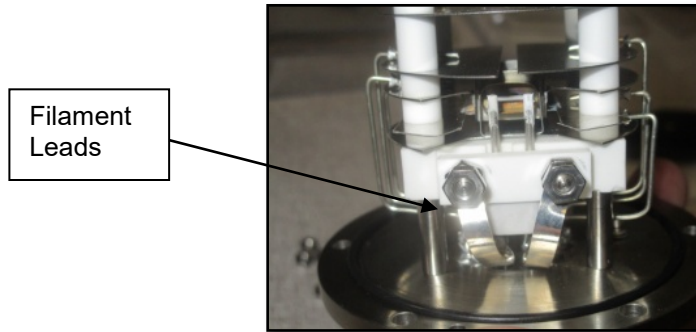

Fig 3.1
2. Once the nuts have been removed carefully remove the ceramic block and filament leads as illustrated in figure 3.1.